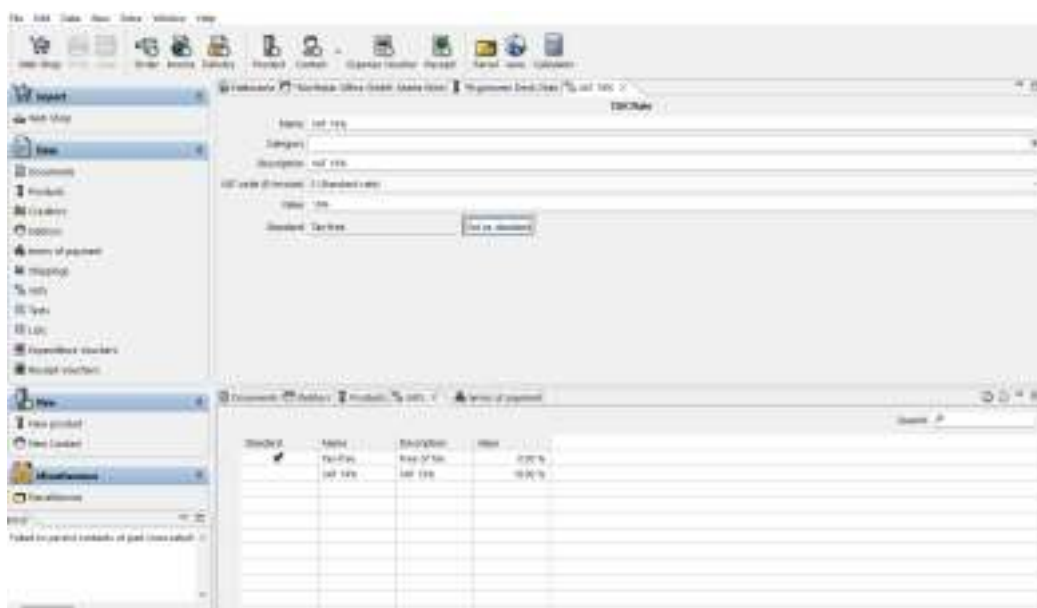

Figure 6. Conditional VAT 19% setup with the Standard rate code and 19% value.
3.6. If the **VAT** is missing, click the green + control and set **Name** and **Description** to **VAT** followed by the percentage, keep **VAT code (E-Invoice)** as **S (Standard rate)**, set **Value** to the percentage, and leave the displayed **Standard VAT** unchanged. **Save** once. See Figure 6.